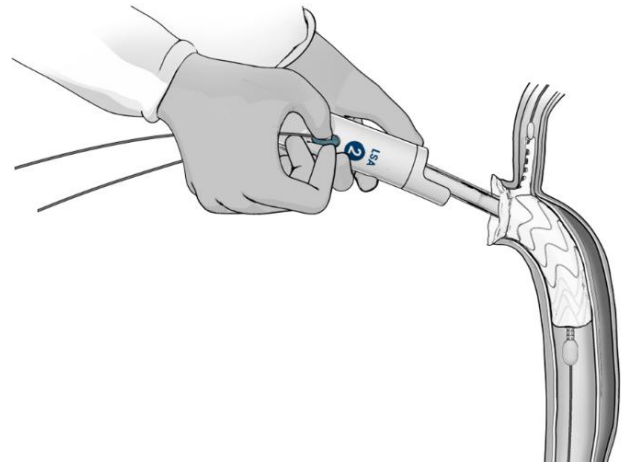

Figure 13. Retract the LSA Pull Tab to deploy the LSA branch after aortic deployment
11.4.4 Deploy the LSA branch second by pulling the LSA Pull Tab (**Figure 13**) which will unlace the LSA Wrap and deploy the stented branch.